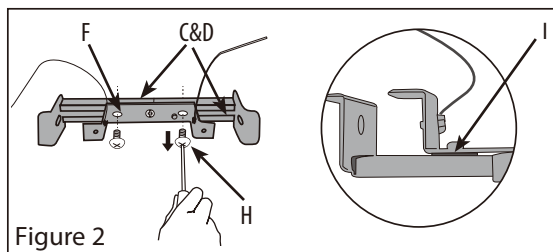

Figure 2
3. Take off the mounting bracket (F) and the washer (I) from the inner/outer sections for channel brace (C/D) by removing the two 5/16" long side screws (H) (Figure 2).